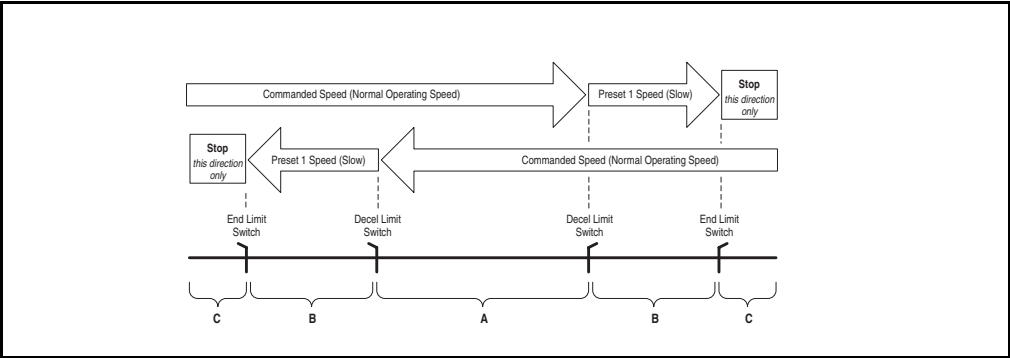

Figure 13.7 – Limit Switch Operation
Decel Limit is enabled by selecting “Decel Limit” as one of the digital inputs in Digital In1-6 Select (361-366). When this input is “low” (opposite logic), the speed reference command will change from the selected reference to the value in Preset Speed 1 (101). The deceleration rate will be based on the active deceleration time. This limit will be enforced only in the direction the drive was running when the switch was activated (momentarily or continuously, see “B” in Figure 13-7). The opposite direction will still be allowed to run at the selected reference speed. No speed limitation will occur between the limit switches (“A” in Figure 13-7).
Two different switches can be connected in series to one digital input to provide a decel limit at both ends of the application (i.e. lift, conveyer, etc.). With proper set up, the drive will automatically apply the speed reduction based on the direction of the load even though only one digital input is being used. See “B” in Figure 13-7.
End Travel Limit is enabled by selecting “End Limit” as one of the digital inputs in Digital In1-6 Select (361-366). A “low” at this input (opposite logic) will cause the drive to do a fast decel (0.1 sec) and turn off. This Stop limit will be enforced only in the direction the drive was running when the switch was activated (momentarily or continuously, see “C” in Figure 13-7).
1. Move the load to a position between two decel switches (“A” in Figure 13-7).